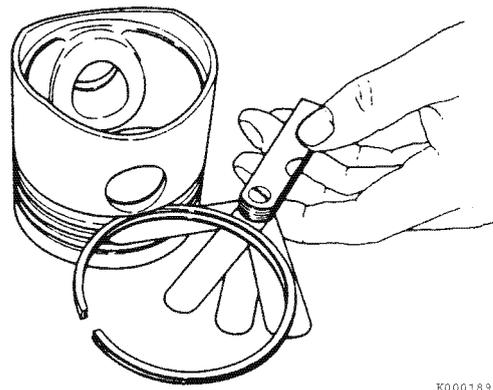

Figure 6-74
9. Place each compression piston ring in the groove as shown (**Figure 6-74**). Use a feeler gauge to measure the clearance between the piston ring and the piston ring land. Record the measurements. See *Piston Ring* on page 6-11 for specifications. Replace the piston if not within specification.